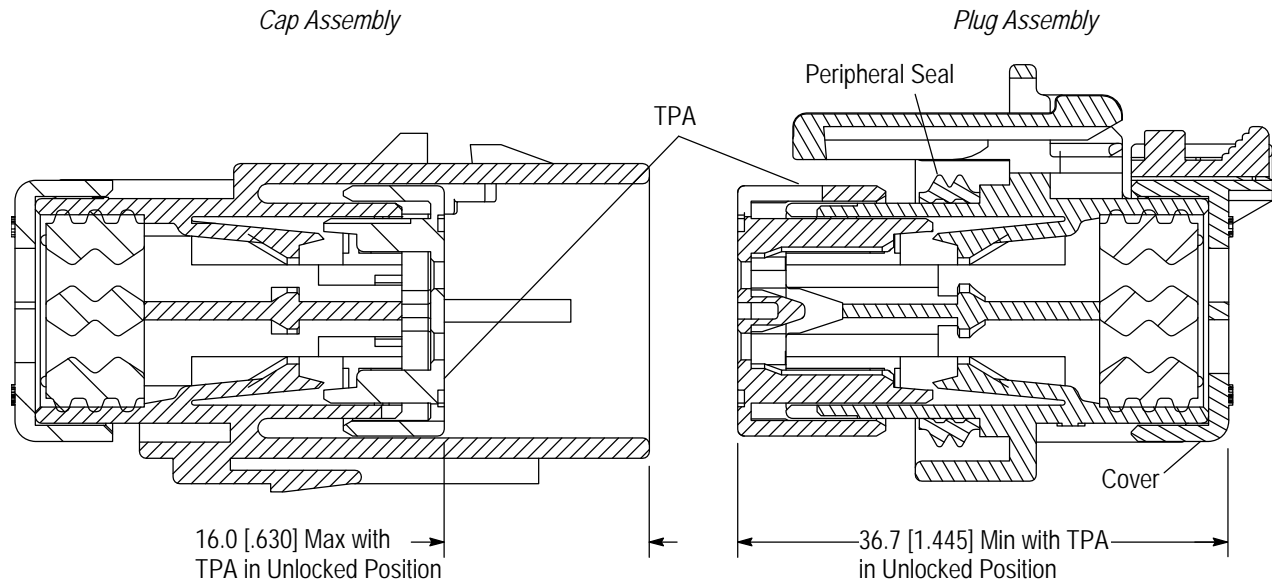

Figure 2
Crimped contacts (Refer to Application Specification 114-13045) shall be manually loaded into the housing assemblies. Socket contacts shall be loaded into plug assemblies, while the pin contacts shall be loaded into the cap assemblies. Refer to Figure 2 and insert the contacts into the housings assemblies with the information as follows:
1. Verify that the TPA is in the pre-staged position (**un-locked**). To verify the plug assembly TPA is in the correct position, check the distance from the cover to the mating face of the TPA as shown in Figure 2 (there will be clearance between the seal and the TPA as illustrated. The location of the TPA for the cap assembly should be as shown in Figure 2 when in the pre-staged position.